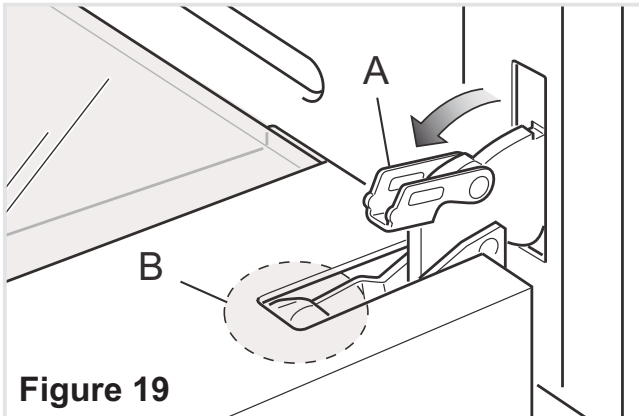

Figure 19
- Open the lever “A” completely on the left and right hinges (fig. 19).
- Gently close the door until left and right hinge levers “A” are hooked to part “B” of the door (figs. 19, 20).
- Open the lever "A" completely on the left and right hinges (fig. 19).
- Gently close the door until left and right hinge levers "A" are hooked to part "B" of the door (figs. 19, 20).